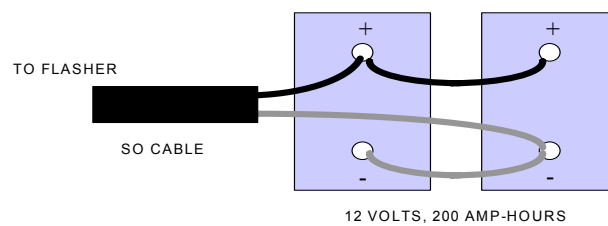

Figure 2-6
- d. Multiple battery installations are wired in parallel (+ to + and - to -) to increase capacity (ampere-hours). Power leads are connected to opposite corners of the batteries to reduce the effects of voltage drop in the jumper wires, as shown in Figure 2-6.